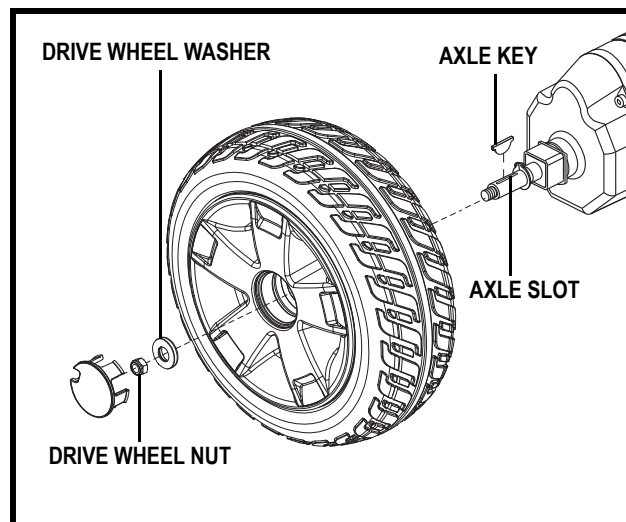

Figure 26. Solid Tire Wheel Removal
4. Remove the drive wheel nut and washer from the axle. **See figure 26.**
9. Slide the wheel back onto the axle. Make sure that the axle key is in the axle slot. **See figure 26.**